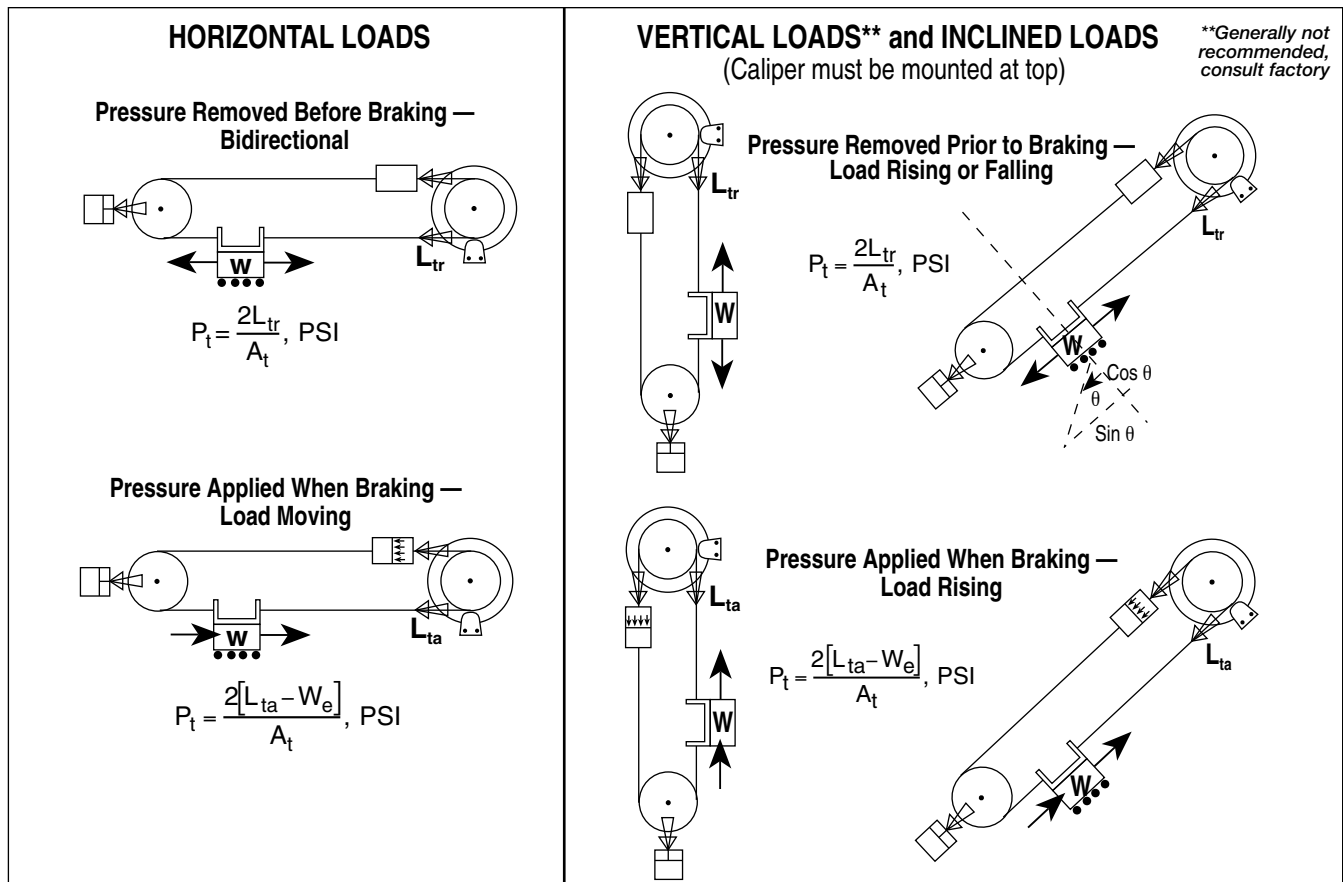

Figure 1
3. Calculate the tangential braking force required. This is ( $F_{tr}$ ) when pressure is removed prior to braking, or ( $F_{ta}$ ) when pressure is still applied when braking. Refer to illustrations in Figure 1.
**5.** Calculate tensioner pressure setting, ( $P_t$ ) based on type of load configuration. See Figure 1 and Table 1